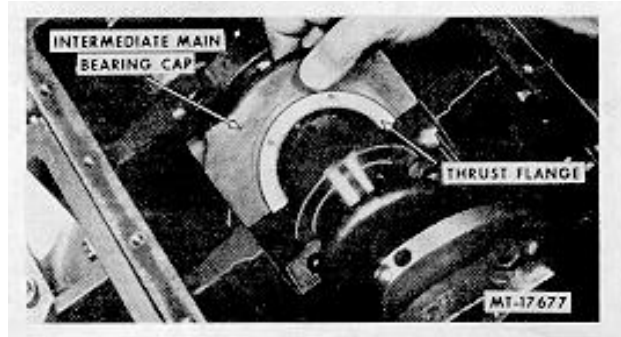

Fig. 59 Main Bearing Cap Removal
60. The crankshaft bearing caps are numbered to identify their position and must be reinstalled in their respective positions. The number three bearing cap accommodates a thrust flange to provide for crankshaft end play (Fig. 59).